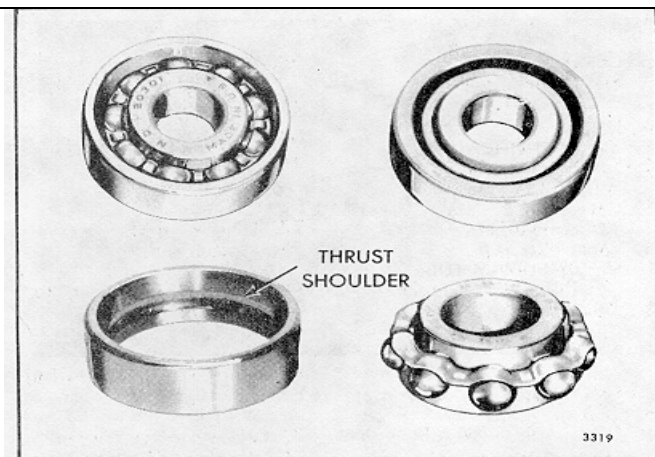

Fig. 10 - Governor Weight Shaft Bearing
**CAUTION:** This bearing has thrust capacity in one direction only. Be sure to install the bearing so that the thrust shoulder (Fig. 10) is toward the governor weights. Otherwise, the force exerted by the weights will pull the inner race and ball assembly away from the outer race and result in damage to the bearing and erratic governor operation.